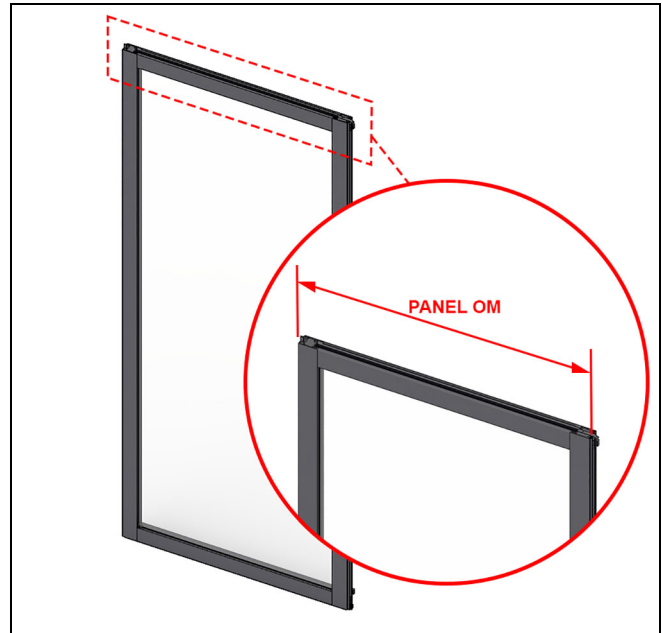
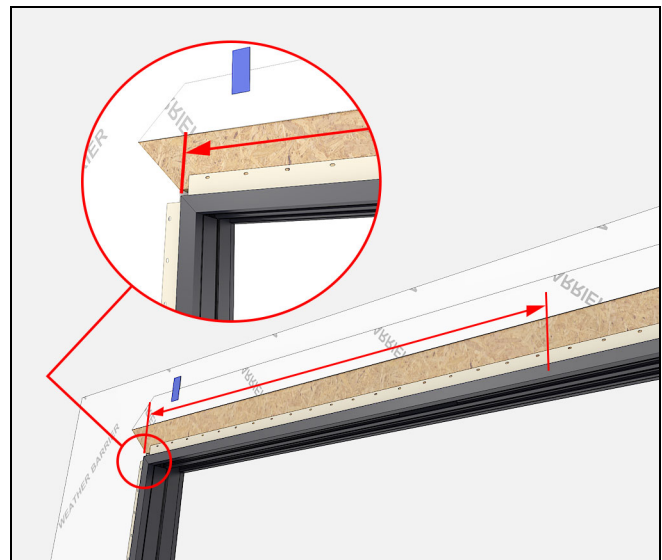
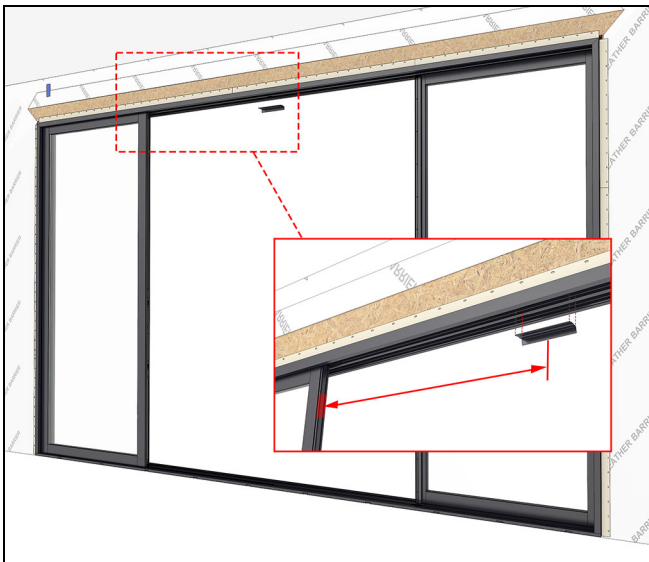

Figure 109
Figure 110 OOX shown
Figure 111 OOOX shown
1. Measure the (H) stationary panel OM. See Figure 109. Transfer that measurement to the exterior track of the head jamb and center the top stationary bracket at that distance. See Figure 110. On OOOX/XOOO, make a second mark from the first, using the same measurement. See Figure 111.